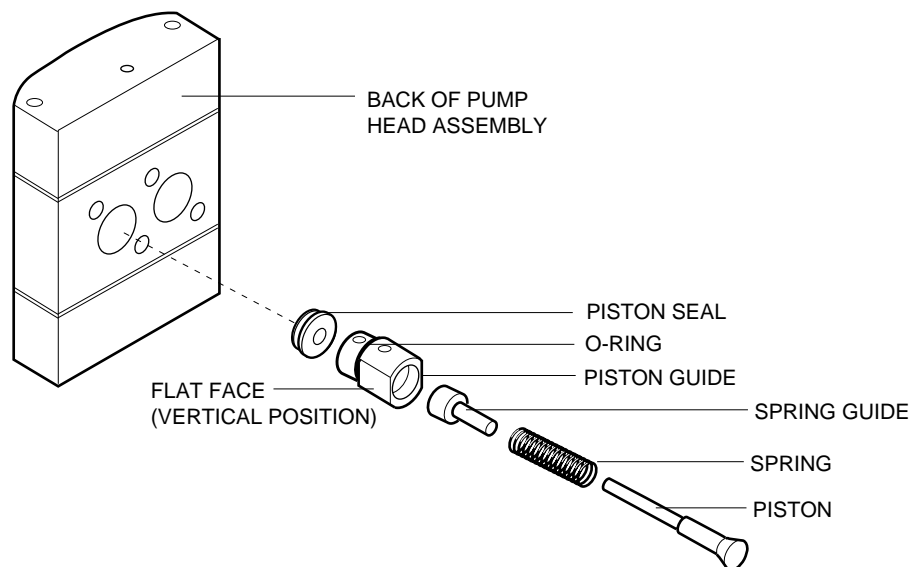

Figure 11-2. Piston Assembly and Access to the Piston Seal (view showing the back of the Pumphead Module)
- d. Note that there are two piston assemblies per pumphead (see Figure 11-2). Each piston assembly consists of a piston, piston guide, and spring. Use a lab tissue to avoid getting fingerprints or oils onto the piston assembly. Carefully remove each piston assembly from its piston well in the pumphead assembly and set it aside.